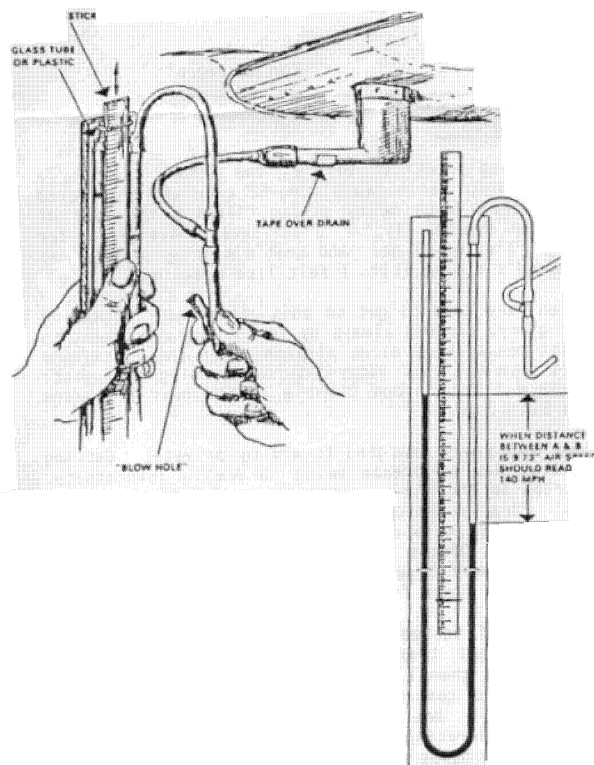

Figure 1
1. Assemble the manometer as shown in Figure 1
3. Stretch one end of the plastic tubing over the nose of the pitot tube (see Figure 1).
After looking at some other designs, namely the Pitts Special and the EAA Acrosport, I decided that the solution was to split the push-pull into two pieces and add an idler arm at station 115-3/8 (or 127-3/8). The forward push-pull is made from 5/8" OD x .035" wall 4130 tubing. An AN490HT10P threaded rod end is bolted into each end with AN3 bolts as shown in the plans. An REPB3N2 (Heim F35-14) rod end bearing is installed on each end. The aft end of the aft push-pull is made as shown on the plans. The front end is made as shown on Figure 1. The .090" 4130 plates are welded to the tube so that they straddle the upper end of the idler arm and the rear rod end bearing.